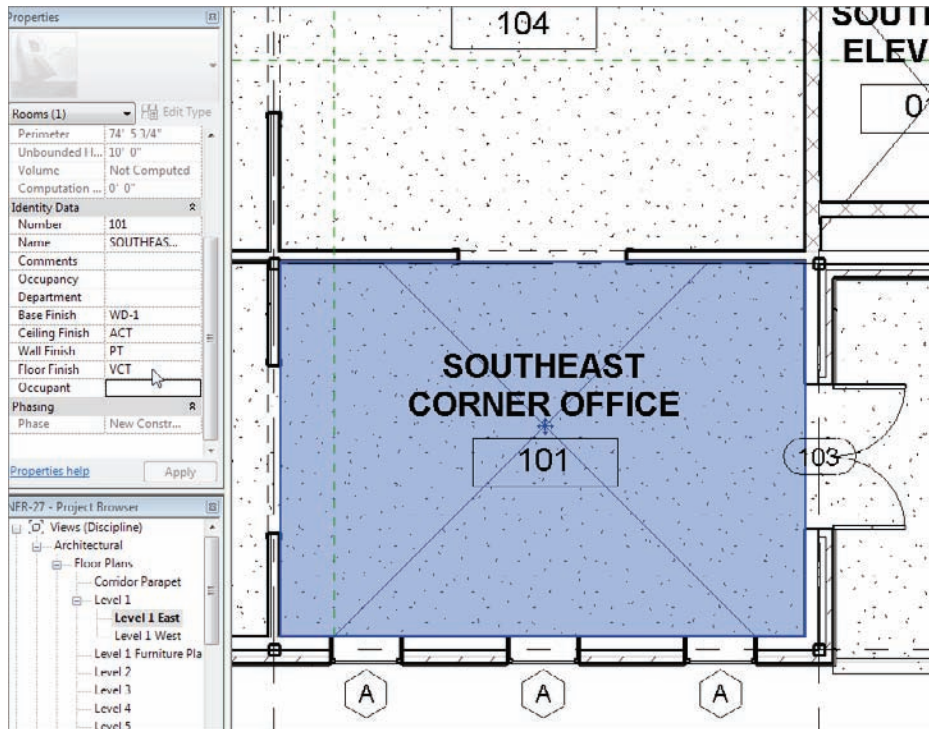

FIGURE 15.8 Adding values to the identity data
4. In the Properties dialog, scroll down to the Identity Data group, as shown in Figure 15.8.
8. Add VCT to Floor Finish (see Figure 15.8).